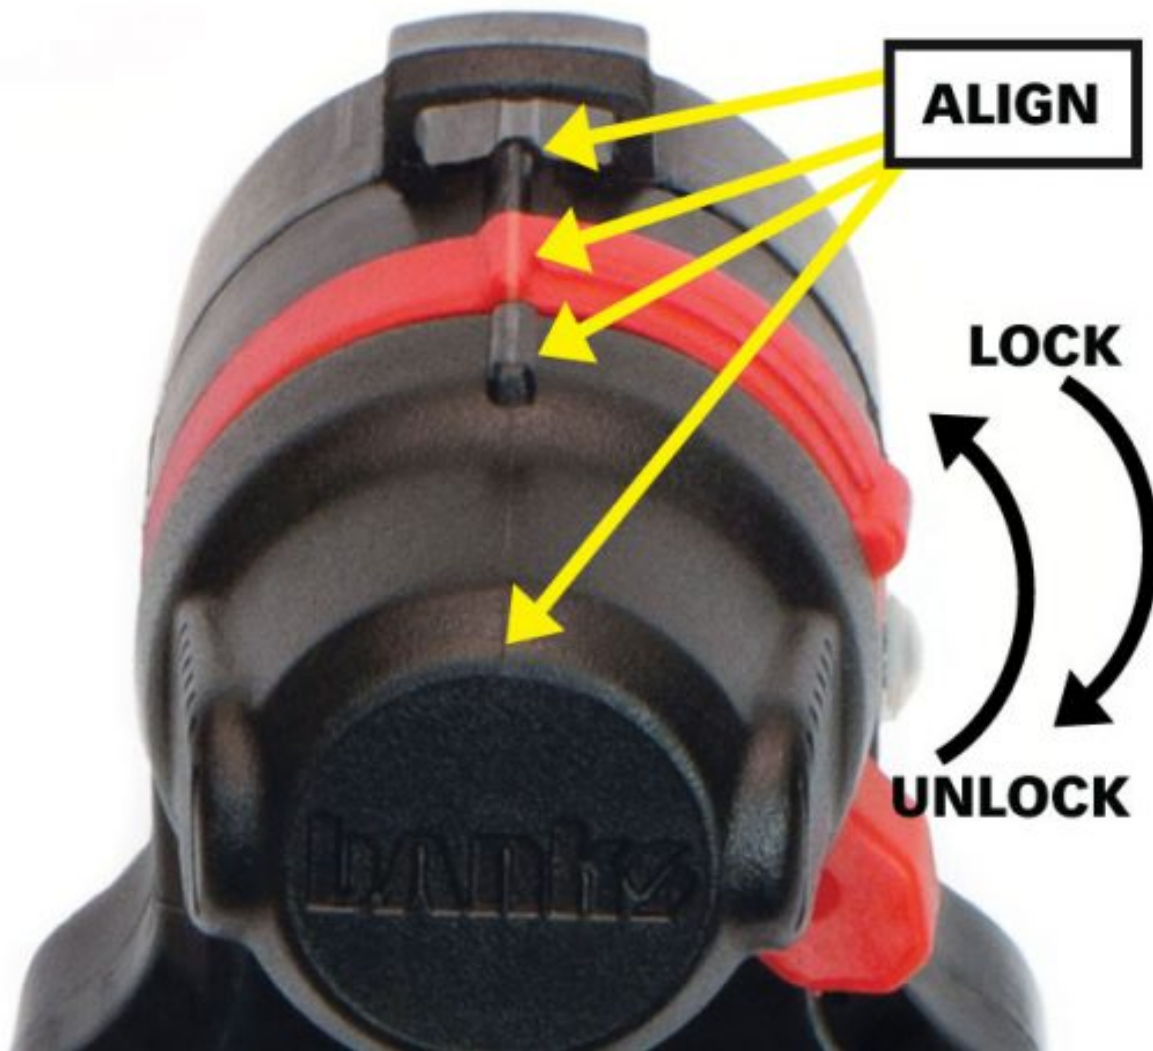

Figure 1.3-2
2. Rotate the locking ring towards the 12 o'clock position then connect the mating ends together ensuring proper alignment using the 12 o'clock marks. See **Figure 1.3-2**